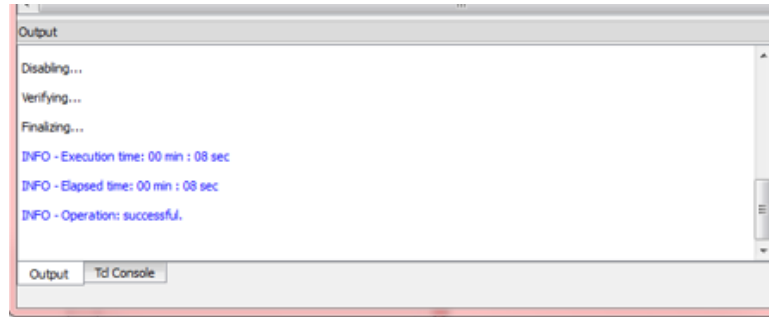

Figure B.5. Output Console
6. After successful programming, the **Output** console displays the results as shown in Figure B.5.